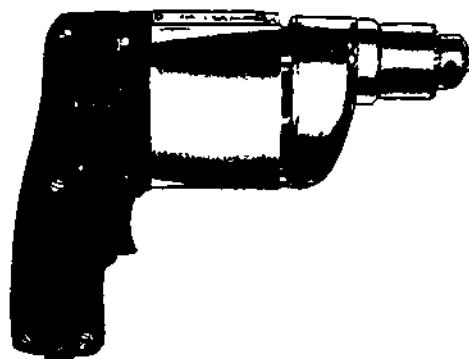

Figure 19-2. Standard Utility Drill
- a) There are many different types of electric drills, but those shown in Figures 19-2 to 19-6 are some of the types that a plumber could need in day-to-day work.
The type of electric drill shown in Figure 19-2 is generally used for light work. Its chuck capacity is usually 6 mm or 9.5 mm drill size. Some models have a reversing switch and speed control.